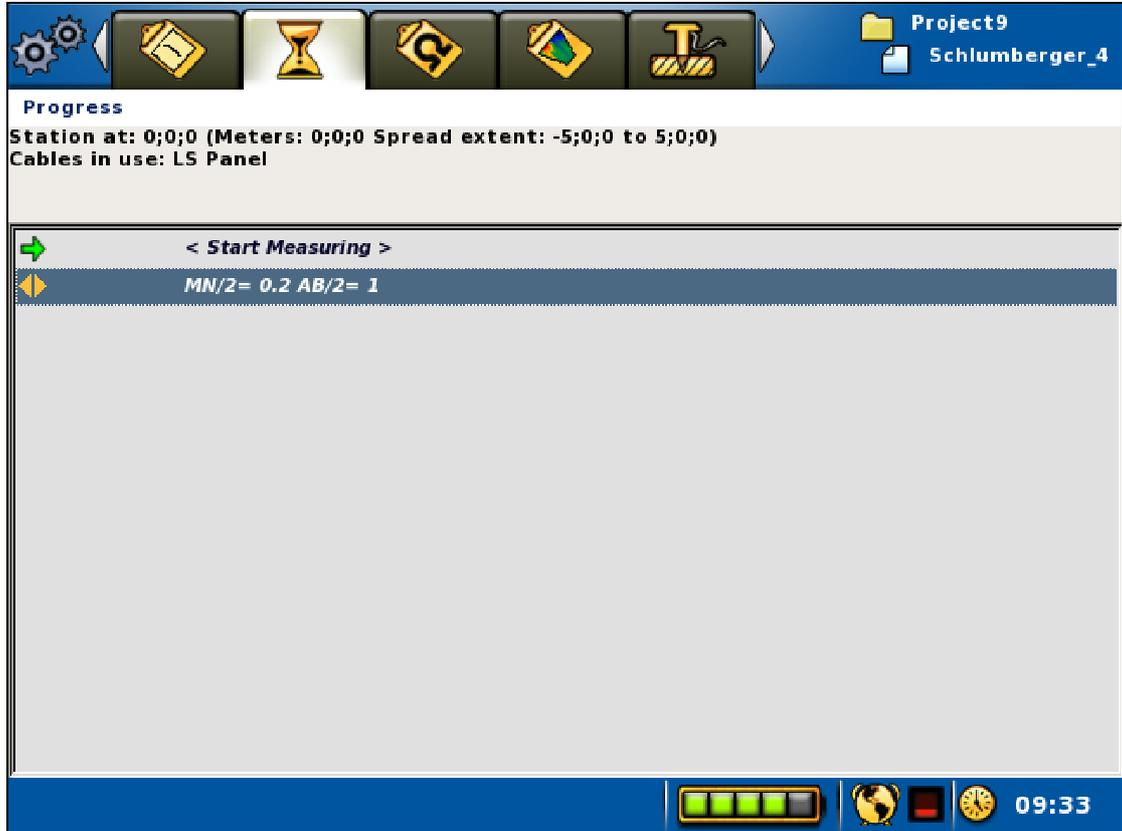

Figure 67 The Progress view in VES mode
- The “*Measure/Progress*” View (Figure 67) will be used to start and stop measurements as usual. The active electrode position, that is the electrode position to be measured, can also be set from this *View*.
In VES mode a line with a “MN/2 and AB/2” electrode position will be shown on the *Progress View* (Figure 67). This is the active electrode position.
The *Electrode Positions View* (Figure 68) lists all the electrode positions from the protocol file. The dark yellow arrow is placed on the line that corresponds to the active electrode position. This electrode position is the one that is shown on the second row of the *Progress View* (Figure 67). The *Electrode Positions View* will be empty when the instrument is not in VES mode.